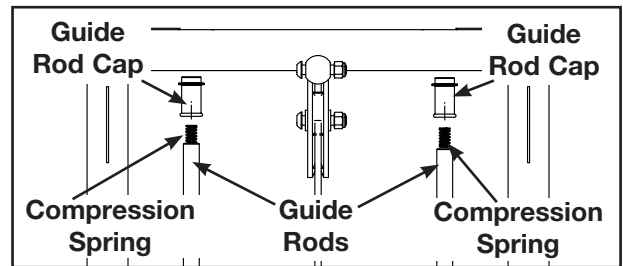
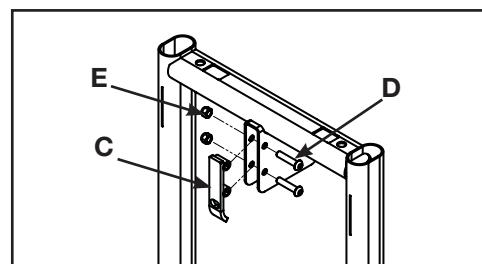

Figure 3
Figure 4
C. Slide spring loaded guide rod cap down guide rod until cap is clear of frame. **NOTE:** Guide rod cap is spring loaded. See Figure 3.
D. Slowly release grasp of guide rod cap. See Figure 3. **NOTE:** Guide rod cap contains a compression spring that will fly if grasp is not released slowly.
A. Locate latch (C), two BHSCS (D) and two locknuts (E) from kit.
B. Using a 7/32" Allen wrench and 9/16" wrench or socket, install latch (C) as shown in Figure 4.